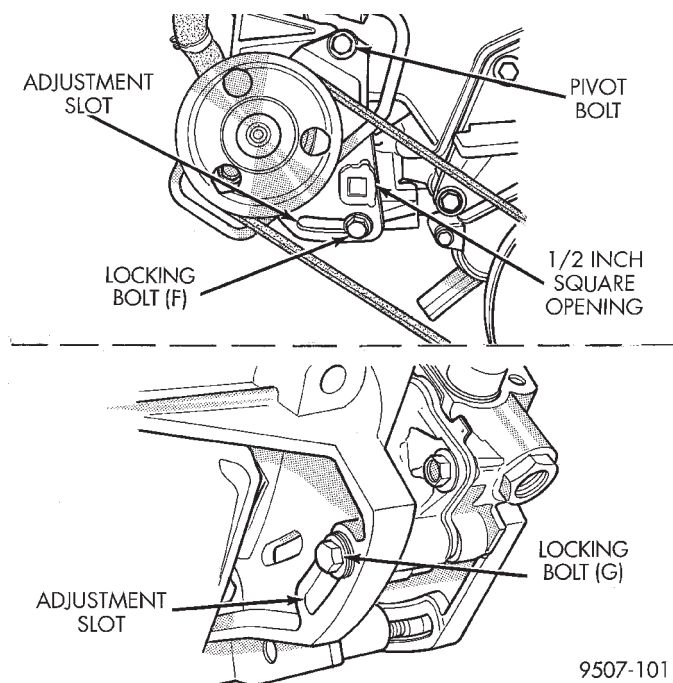

Fig. 39 Power Steering Belt Adjustment
(1) From the top of the vehicle loosen pivot bolt (Fig. 39).
(2) From under the vehicle loosen the locking bolts F and G (Fig. 39).
(3) Install the belt. Adjust belt tension with 1/2 in. breaker bar installed in adjusting bracket (Fig. 39). See tension specification in chart (Fig. 40).
(4) Tighten locking bolt G to 28 N·m (250 in. lbs.) (Fig. 39).
(5) Tighten locking bolt F and the pivot bolt to 54 N·m (40 ft. lbs.).